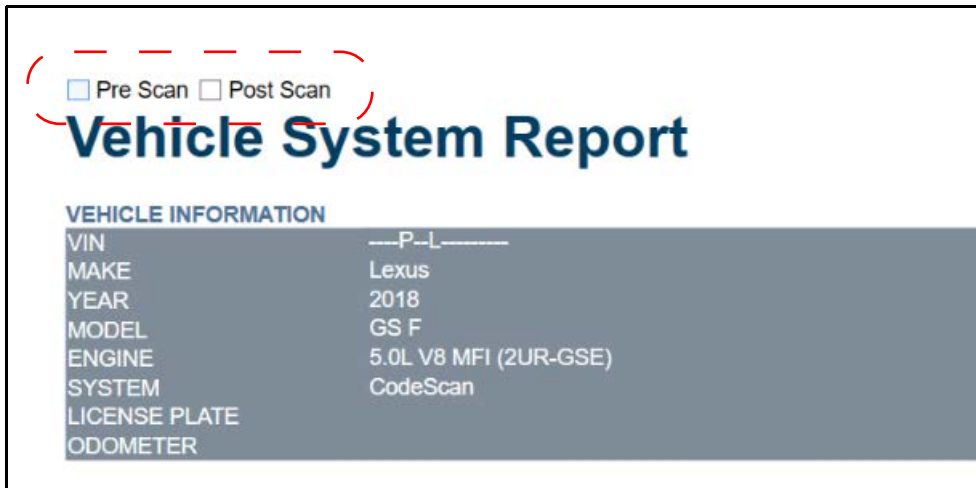

Figure 18-8
1. Double-click the code scan .XML file from the file list to open the Vehicle System Report (Figure 18-8) in the Code Scan Viewer.
2. Hover the cursor over the area shown in Figure 18-8, and select the desired option to add to the report header.